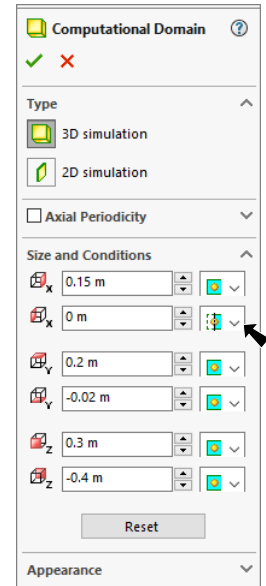

Fig. 10
Step 3. Set X min x to Symmetry , Fig. 10.